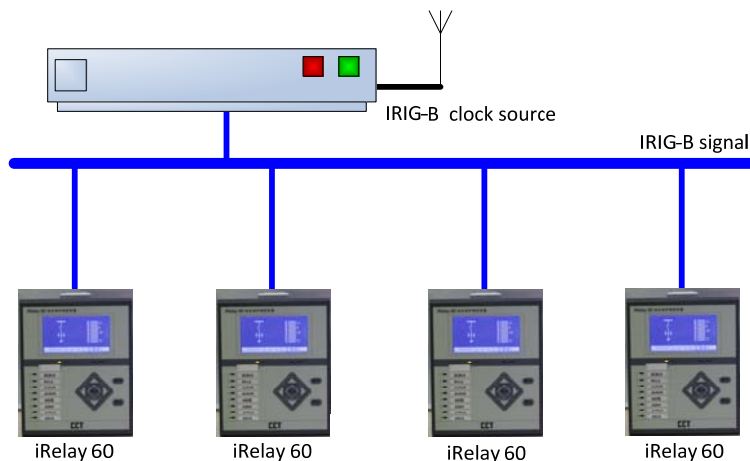

Fig. 3-118 Typical application of IRIG-B synchronization source
- Calibration of IRIG-B: The connected IRIG-B signal may not be in standard GMT; the parameter is adopted to transfer input IRIG-B clock into standard GMT in iRelay 60 of minute; the default value is 0. For instance, the output signal of IRIG-B clock source is Beijing time which is later than GMT for 8h; the parameter is set to be -480 in order to transfer Beijing time into GMT. Please refer to Fig. 3-118 for the typical application.